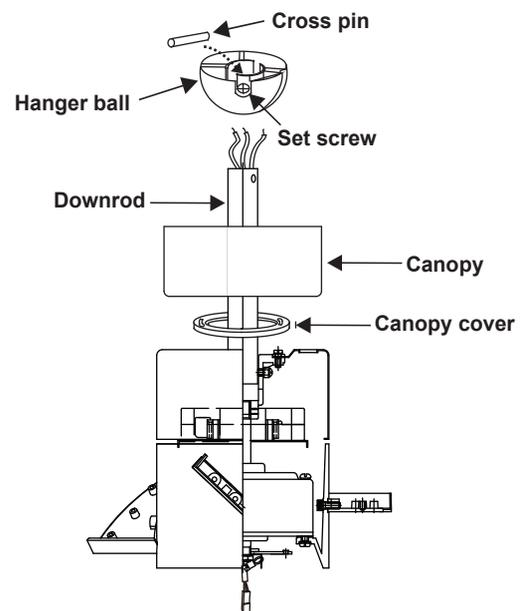

Figure 9
8. Slide canopy cover (with decorative side oriented to floor) and canopy (with wide end oriented to ceiling) onto down rod. Carefully reinstall hanger ball onto rod. Be sure that cross pin is in correct position, the set screw on hanger ball is tight and that the wires are not twisted. (Fig. 9)
1. Connect the fan supply (black) wire to the black household supply wire as shown in Fig. 9.